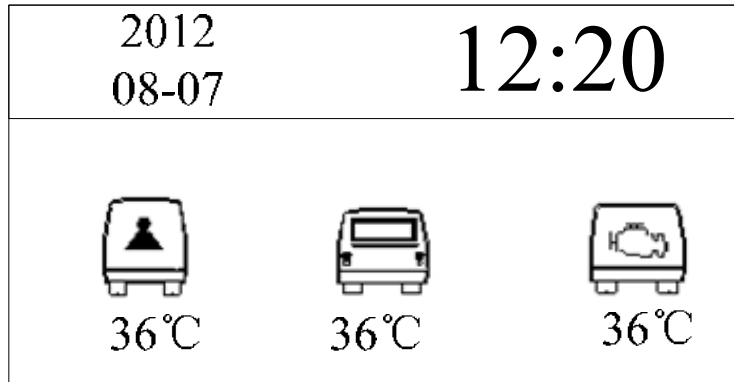

Figure-7 Car and Engine compartment temperature
3.1.5 The sixth display inside temperature, outside temperature and engine compartment temperature. as shown in Figure-7